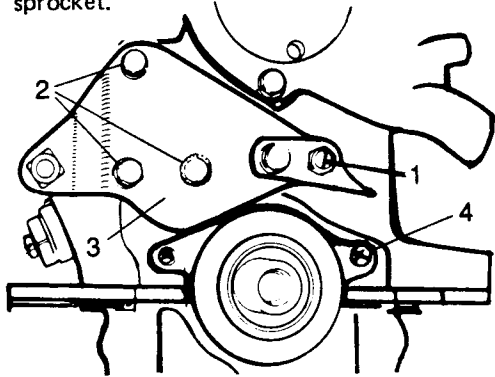
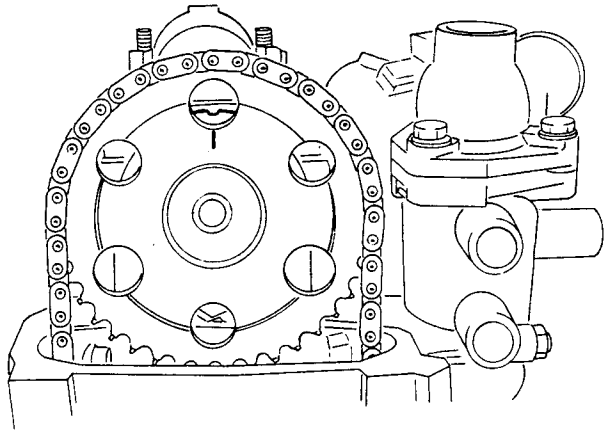
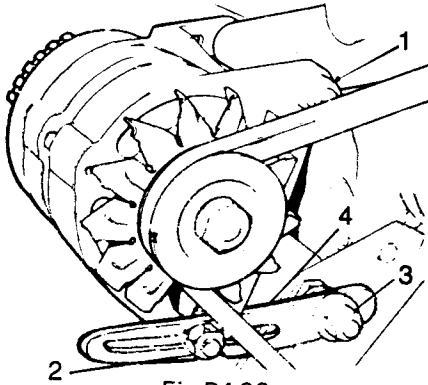

Fig B4.101
Fig B4.103
Fig B4.96
- (10) Refer to Fig B4.101. Remove the locknut (1) and three bolts (2) and lift away the timing cover (3).
- (11) Slacken the sump screws sufficiently to lower the sump by approximately 5 mm.
- (12) Remove the two seal housing screws (4). Carefully separate the housing gasket from the sump gasket with suitable blade or knife and remove the housing.
- (14) Turn the cam adjuster stud ((1) on Fig B4.101) to obtain maximum slack in the chain.
- (15) Lever the chain away from the tensioner (2) and turn the tensioner through 180°. Finally push the chain inwards and remove the tensioner through the timing cover aperture.
- (4) Refer to Fig B4.103. Replace the camshaft sprocket. Check that the timing marks on the sprocket and carrier are aligned.
- (5) Refit the chain over the sprocket.
- (6) Replace the camshaft cover (see Sub-section B4, Chapter 11).
- (7) If the crankshaft sprocket has been removed, replace it and refit the chain.
- (8) Turn the cam adjuster stud ((1) on Fig B4.101) to the point where the slack in the chain is just taken up. Do not overtighten the chain.
- (9) Fit the allen key into the chain tensioner and turn 90° counterclockwise to release the tensioner.
- (10) Replace the seal housing, securing it with the two screws.
- (11) Retighten the sump screws to 10 to 13 N.m.
- (12) Replace the timing cover noting that the dowel bolt goes through the eye at the bottom of the fixed (RH) chain guide. Tighten the other three bolts to 24 to 27 N.m.
- (13) Replace and tighten the locknut on the cam adjuster stud. Do not move the stud while tightening the nut.
- (14) Refit the crankshaft pulley and tighten the harmonic balancer bolt to 81 to 95 N.m. Check that the timing mark is still at TDC.
- (15) Replace the alternator adjusting bracket.
- (16) Replace and tension the alternator bolt. Tighten the three nuts (1), (2) and (3) on Fig B4.96.
- (17) Lower the vehicle to the ground.
(2) Refer to Fig B4.96. Slacken the nuts (1) and (2) and remove the alternator belt.
(3) Remove the nut (3) and take off the alternator adjusting bracket (4).